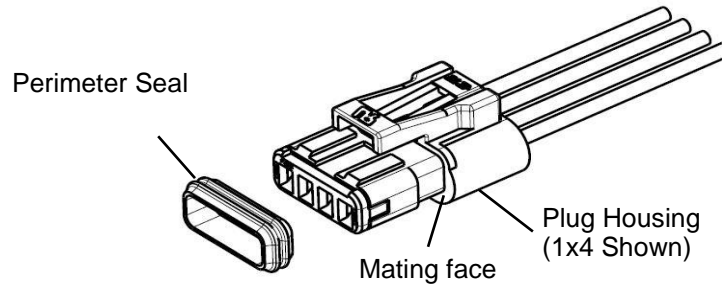

Figure 13
1. Assemble Perimeter seal over contact silos of the plug housing as shown in Figure 13 until it rests against the mating face of the plug housing as shown in Figure 14.